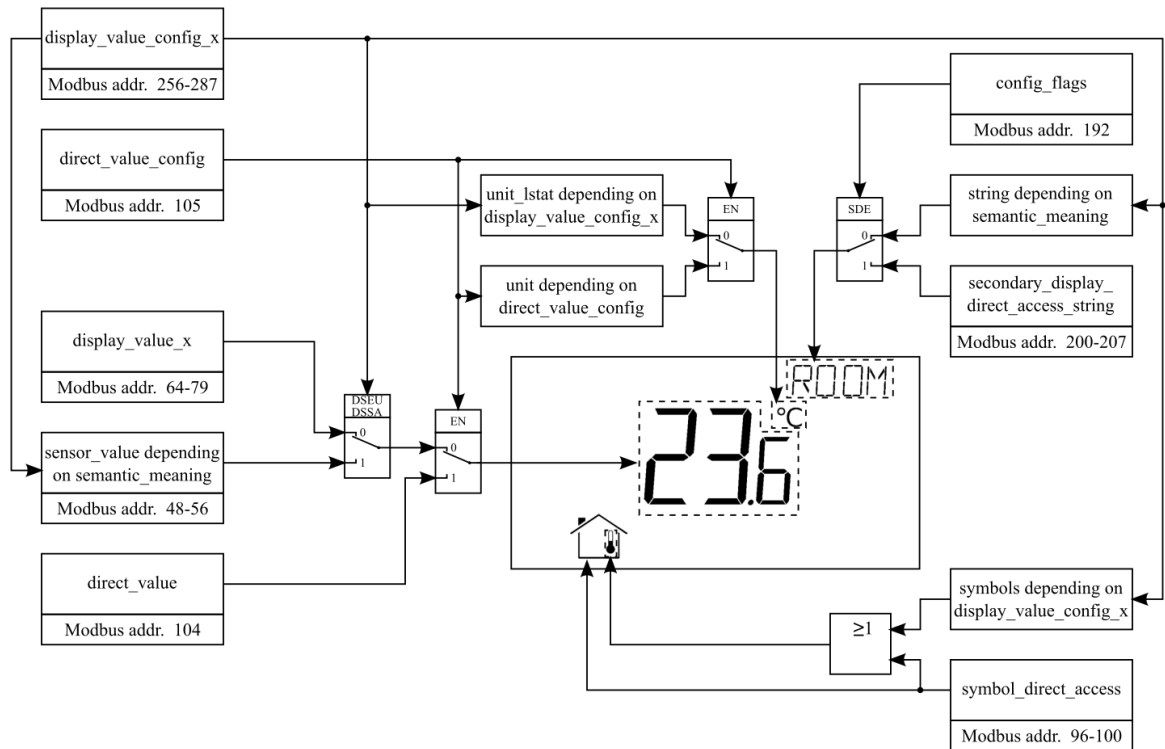

Figure 8: Modbus Register Usage for Value Display
The following Figure 8 shows, which Modbus registers have influence on a displayed value, unit, text on the secondary display or symbols. Depending on settings in configuration registers different combinations are possible to achieve the desired result.
① A sensor value can be used as source for a display value. Therefore the DSSA or DSEU bit as well as the semantic meaning at the corresponding display value configuration at address 256 to 286 has to be set (see Table 31 on Page 44). If the DSSA or DSEU bit is set this specifies that a sensor value is used instead of a display value. The semantic meaning specifies which sensor value is used as source for displaying. For an overview on this topic please see Figure 8 on Page 25. ② Sensor_value_0, sensor_value_1 and sensor_value_3 are 16 Bit signed values. All other sensor values are defined as 16 Bit unsigned since there are no negative values to expect. The values are scaled as described in Table 42 at Page 58.
① The DSSA or DSEU bit at the corresponding display value configuration at address 256 to 286 has to be cleared to display the content of a display value register (see Table 31 on Page 44). If the DSSA or DSEU bit is cleared this specifies that a display value is used instead of a sensor value. The semantic meaning specifies which text is displayed along with the specific display value. For an overview on this topic please see Figure 8 on Page 25.
① All registers are 16 Bit signed values. Depending on the 30odbus_unit specified with the corresponding display value configuration register at address 256 to 287 (Table 31 at Page 44) the value needs to be scaled as described in Table 42 at Page 58 to achieve the desired result.